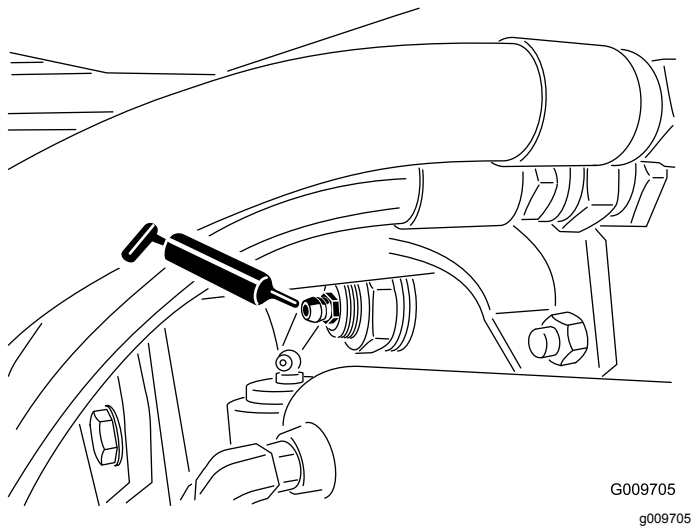

Figure 76
- Rear-axle-pivot bushings (2) as shown in Figure 76